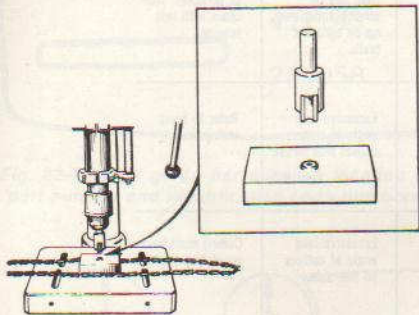
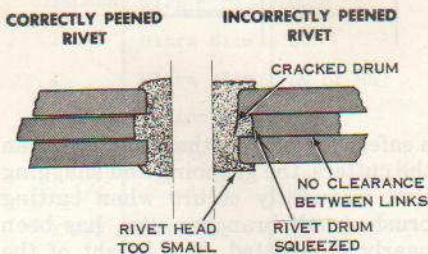

Fig. 17—Rivets should be installed using the special Pioneer rivet spinning attachment.
Fig. 18—Views showing correctly installed rivet and rivet damaged by incorrect installation.
**RIVETTING.** A special rivet spinning attachment is available from Pioneer Saws (Part number 471113) that can be used in any 1/2 inch drill (Fig. 17). Use this tool so that the rivet head will be spun down uniformly to give the same appearance and strength as original factory installation (Fig. 18.)